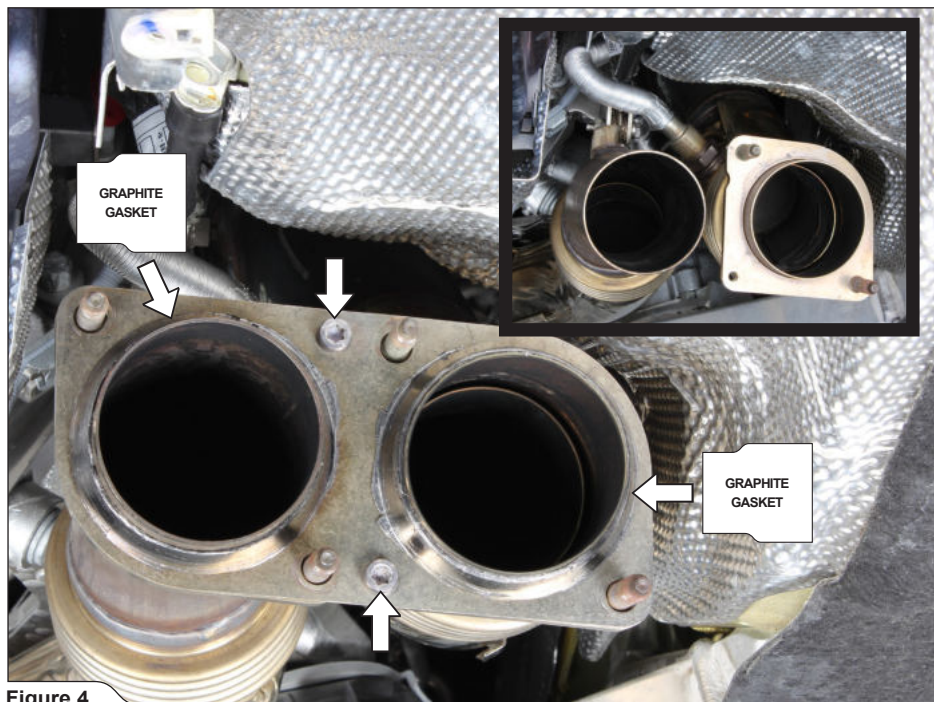

Figure 4
3. Unscrew the marked bolts, carefully remove both graphite gaskets and remove the pipe connecting plate (Figure 4).